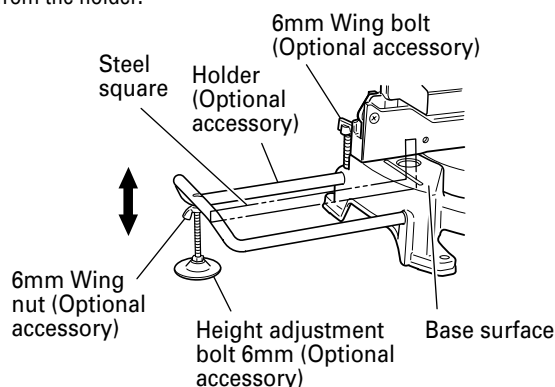

Fig. 10
- (1) As indicated in Fig. 10, use a steel square for aligning the upper edge of the holders with the base surface.